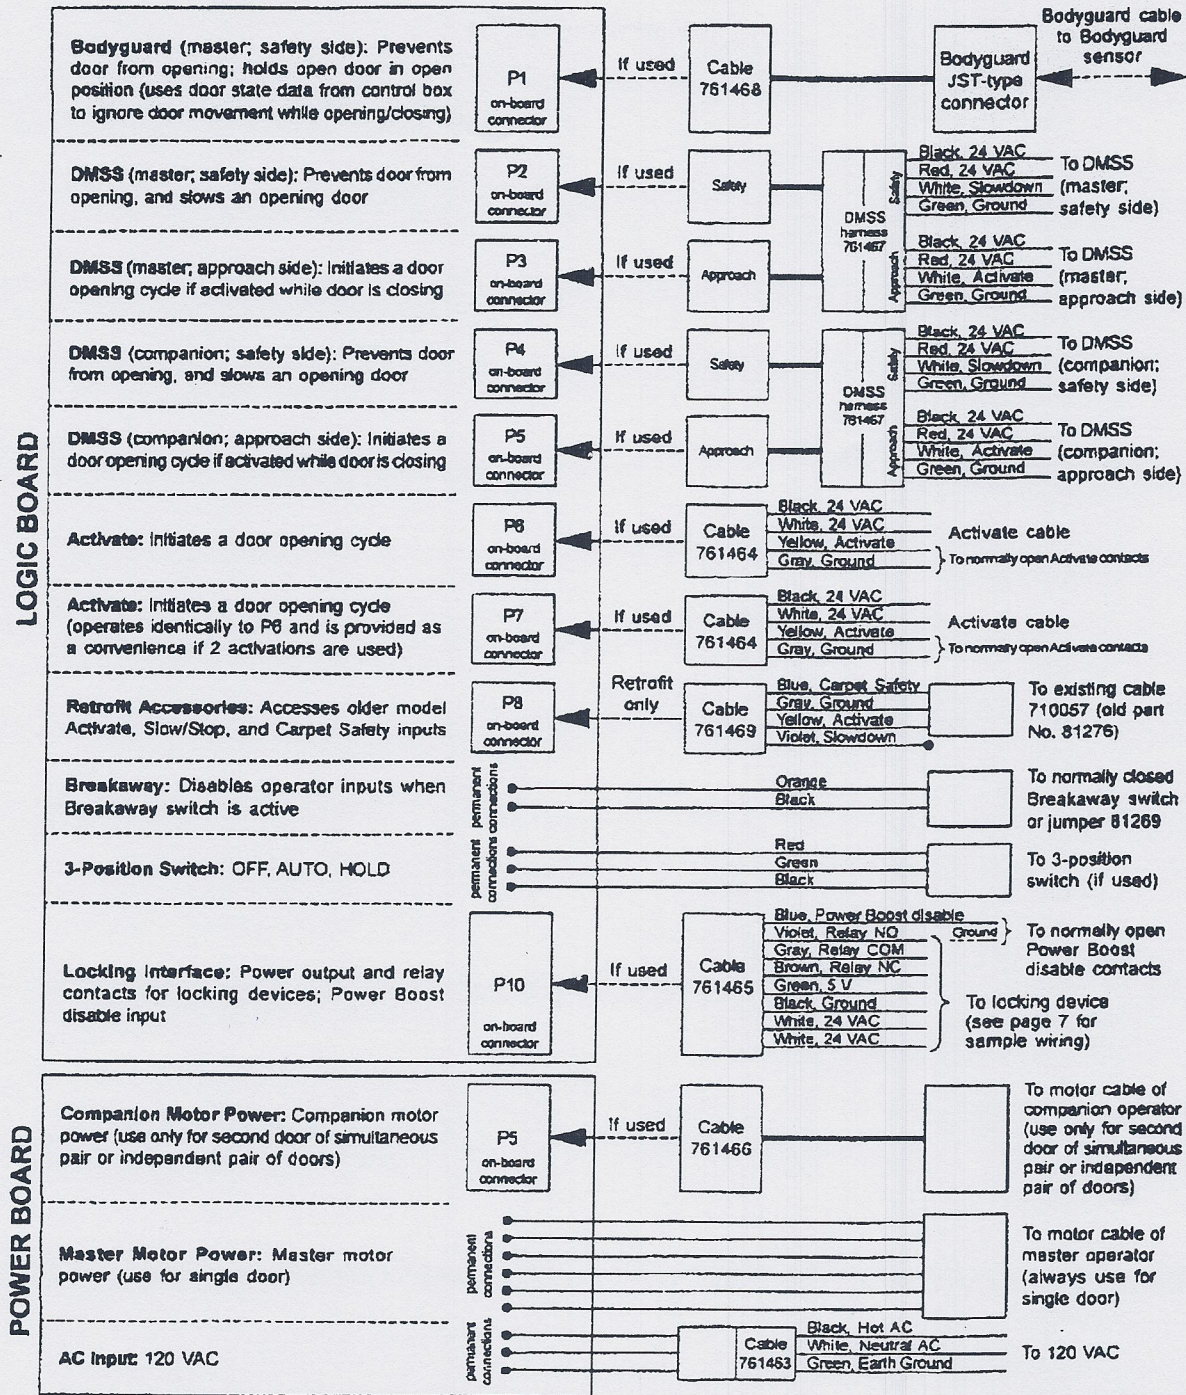

Figure 3-5
- See Figure 3-5 for control box plug and jack descriptions, wiring, and mating cables.